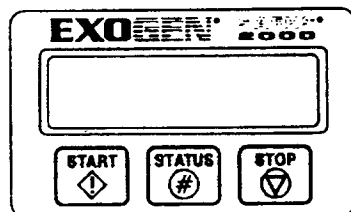

Fig. E.2
- a. Check the MOU to be sure that it is turned off. This is indicated by a blank screen on the display (Fig. E.2). If you have accidentally pressed the "Start (◇)" button, wait approximately 15 seconds until the display is blank.